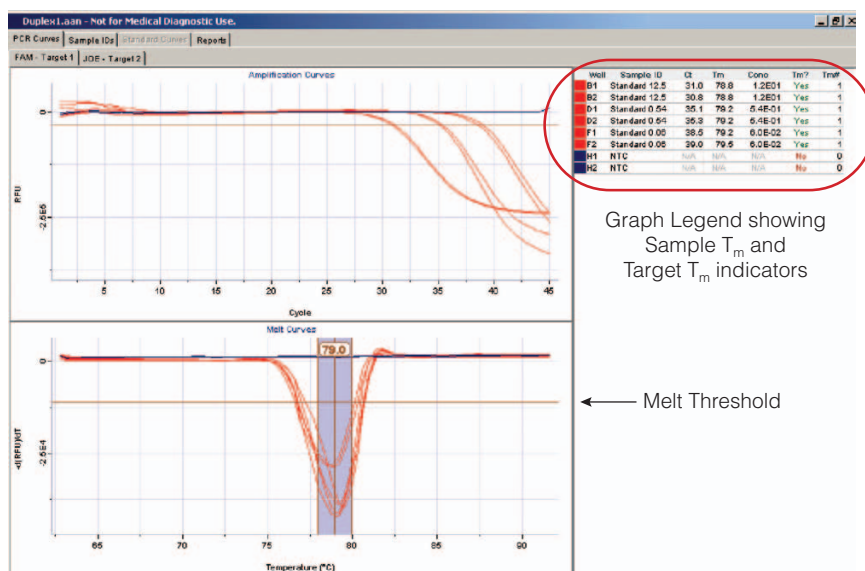

Figure 32. The expected target melt temperature is displayed in a table to the right of the graph.
2. Select a well containing a standard reference template or genotyping control sample. The  $T_m$  for each selected sample will be displayed in a table to the right of the graph (Figure 32). The expected target melt temperature and associated target melt temperature range for all samples in this dye channel should be set based on the  $T_m$  of this standard or control sample. See Note 1.